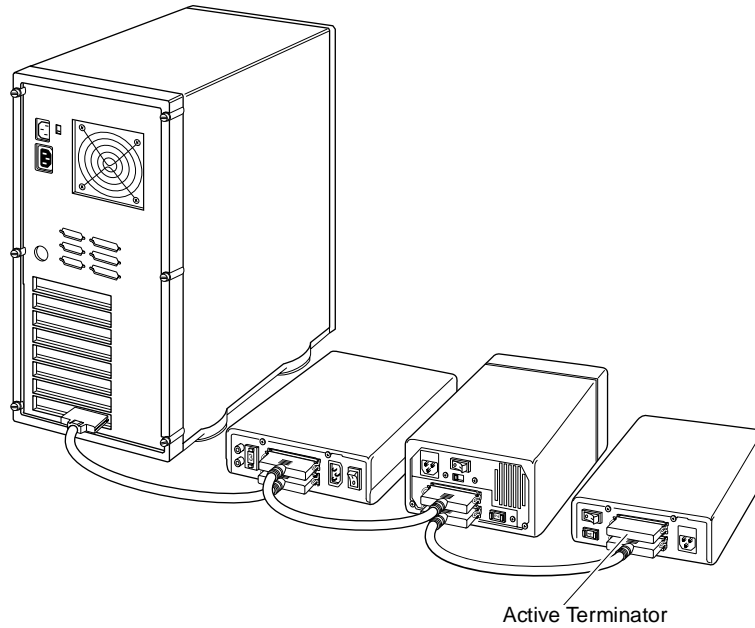

Figure 2-8. Attaching Multiple External Devices
- 4 Connect other external SCSI devices by daisy-chaining each device to the previous device until all external SCSI devices have been connected, as shown in Figure 2-8. (The device at the end of the chain must have an active terminator installed. See *SCSI Termination* on page 2-14 for additional information.)